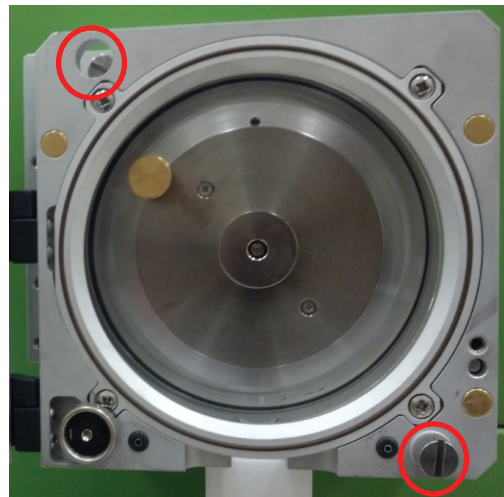

Figure 12 Source screw locations
5. Secure the source housing to the instrument via the 2 screws in the upper right and lower left corner (Figure 12)